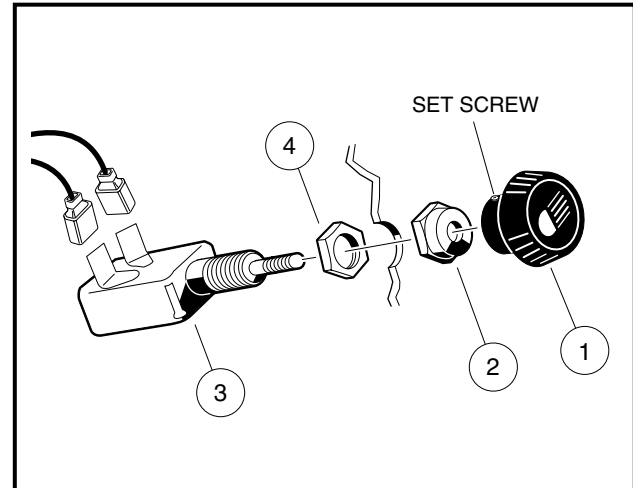

Figure 12-33 Light Switch
4. Loosen the set screw locking the light switch knob (1) to the shaft (**Figure 12-33, Page 12-32**).
7. Remove the outer nut (2) from the light switch (3) (**Figure 12-33, Page 12-32**).
2. Thread the check nut (4) onto the switch until an equal number of threads show on both sides. Insert the switch through the dash panel and install the nut (2) on the outside of the dash. Tighten the nut to 14 in-lb (1.6 N·m) (**Figure 12-33, Page 12-32**).